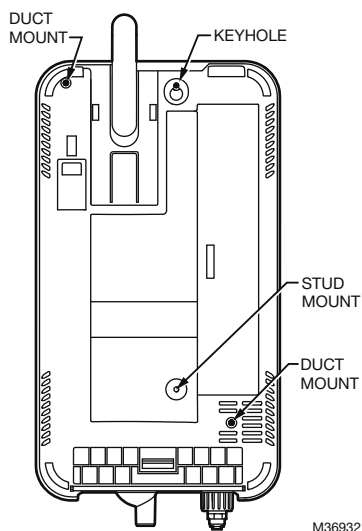

Fig. 12. Mounting locations. (Rear view)
The HM750 has a keyhole and three additional mounting holes as shown in Fig. 12.
1. Remove the humidifier cover and pull out the cylinder. Insert the top screw until 1/4 in. (6 mm) is exposed. Hang the humidifier via its keyhole on the screw head (see Fig. 12).
2. After making sure the humidifier is level, affix it to the stud with another screw at the lower stud-mount location (Fig. 12).
4. After making sure the humidifier is level, secure it to the duct using two screws at the duct-mount locations (Fig. 12), and then replace the cover